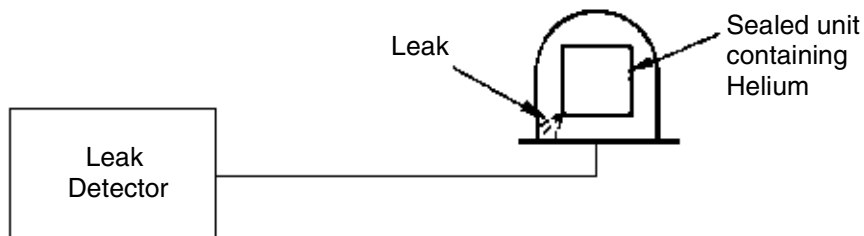

Figure C-3 Test Piece Sealed with Helium or Mixture of Helium and Other Gases: Bell Jar Used to Determine Overall Leak Rate
C.6.3 Test Piece Already Sealed (Figure C-3)